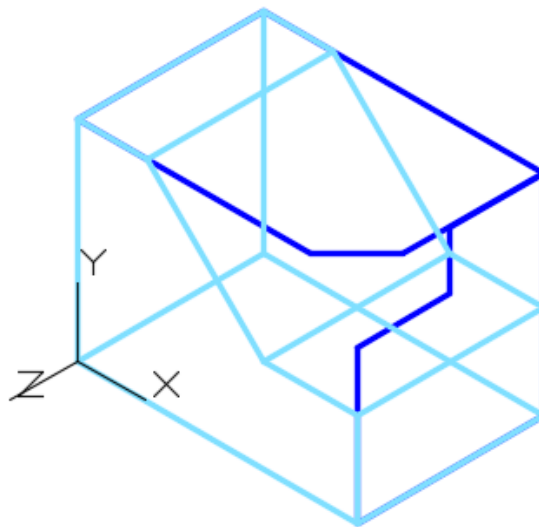

Figure Step 9
Step 9 Set layer: Solid 3 as the current layer. Extrude the Front view the depth of the model. (Figure Step 9)